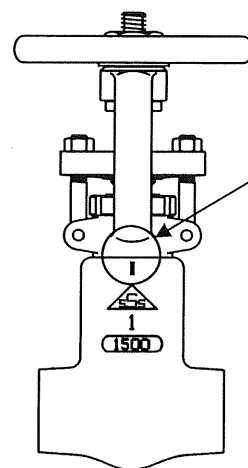

Figure 7.1 Example for Marking
- To match for the direction of disc, make the match mark on the body joint by marking pen as shown in Figure. 7.1 before loosening the bonnet lock nut.